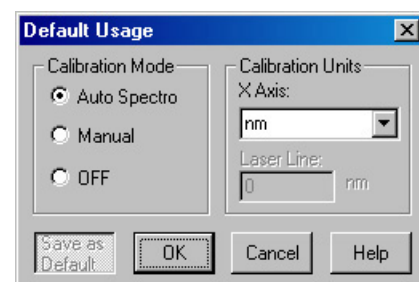

Figure 58. Calibration Usage dialog
1. Select **Usage** from the Calibration menu. The dialog in Figure 58 will be displayed.